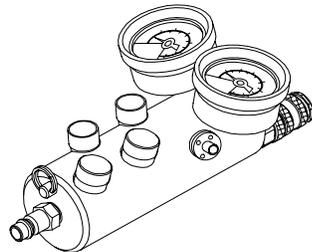

Figure 1-16. Dual Deadman Controller
b. **Dual Deadman Controller** - Part Number 22-796103 (Figure 1-16). Single input/dual output controller incorporating quick disconnect hose fittings and dual pushbutton controls to apply and release air pressure to either one or two struts. Two gauges are provided to monitor the air pressure applied to either one or two strut(s) and a 250 psi (17.2 bar) relief valve is incorporated to limit the applied air pressure. An adjustable strap permits attachment to the operator.